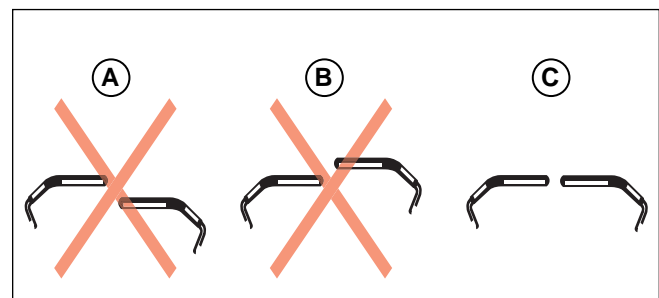

Figure 4. Lever Alignment & Placement Adjustment
1. From the neutral position, pivot the ground speed / steering control levers in towards the center of the machine. If one of the levers is tilted further forward (B, Figure 4) or back (A) then the other lever, pivot the levers forward or backwards to align with each other (C). Tighten the mounting bolts.